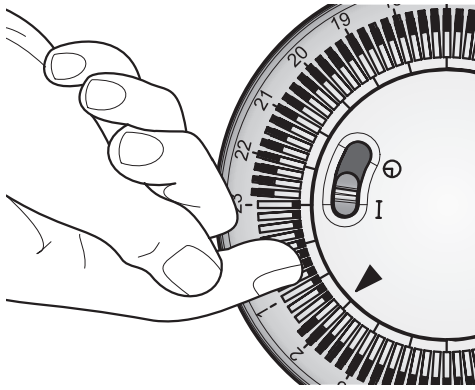

Fig. 7
- Using your finger tip or the tip of a pencil, push in as many segments as necessary around the dial, according to the times you don't require heat – see **Fig. 7**. Each segment pushed in switches the heater OFF for that part of the hour. All other segments will be ON. For example, **Fig. 7** shows the timer set to switch the heater OFF between 11pm and 1.45am.